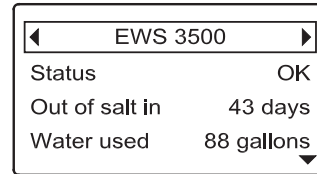

FIG. 128
1. Press the remote's LEFT (◀) or RIGHT (▶) buttons to manually advance to the status screen for the device to delete. The device name will show in the header. (See Figure 128).